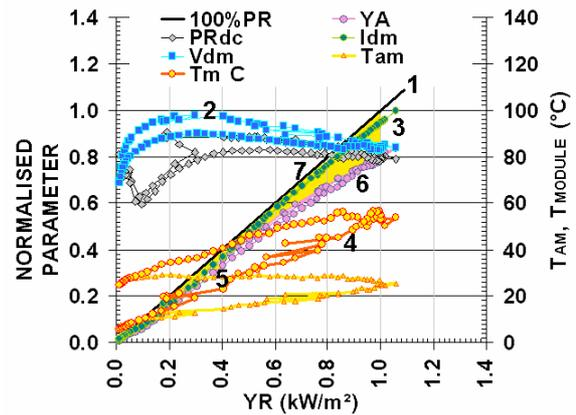
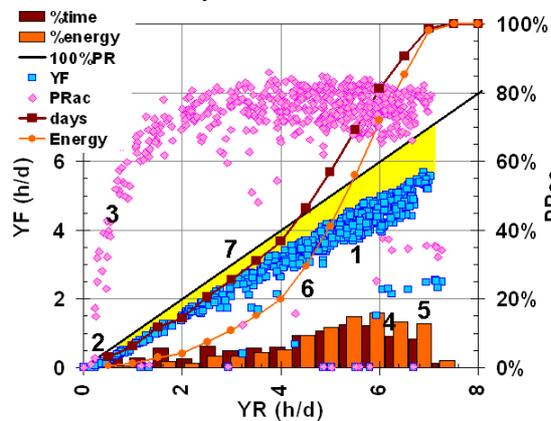

Figure 2 : Hourly DC module vs. irradiance, good c-Si
Figure 4 : Daily AC array measurements vs. irradiance
Figure 2 shows the performance of the same c-Si module against irradiance (x-axis). kWh/kWp is the sum of the YA values. Measurements at high YR dominate because there is more available energy at high light levels (see also fig 4). Note :-
Figure 4 shows daily AC measurements for an a-Si array with MPPT and Inverter in TN, USA. Note
**PARASITIC LOSSES** in BOS components show when YA or YF intersects the x-axis not at the origin as in {2} in figure 4. Some Inverters don't turn on before a certain threshold; this constant loss may therefore be related to a dissipation within an Inverter. Losses at high YR may be thermal in nature, whereas resistive losses would be proportional to current and light level and would show deviation from the YR=YF line as YR increases.
**SEASONAL EFFECTS** due to YR or  $T_{AM}$  have a periodicity of yearly (for optimum tilt) or perhaps twice yearly (for non optimum tilts) (see fig 4). Spectral effects will normally be only yearly as the sun's spectrum depends on the solar height. Multi junction devices suffer larger spectral effects as the junctions are in series. If there are 3 junctions peaking in the red, green and blue, then the current is limited by the cell with the poorest match to the sun's spectrum.